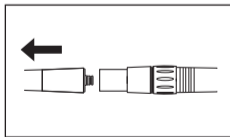

Fig. 19
- 5 Remove the handpiece from the coupling or hose (Fig. 19). Perform maintenance of the coupling according to the operation manual for the coupling.